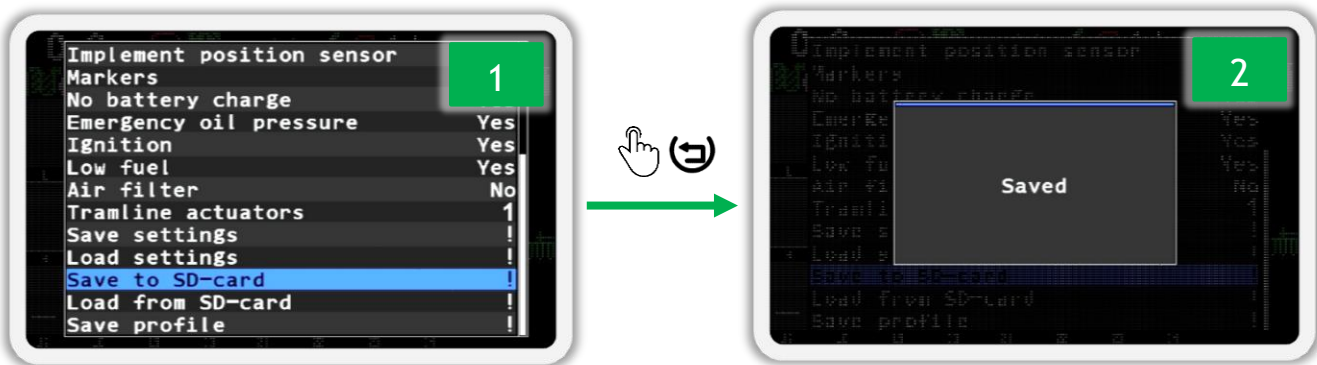

Figure 61 Saving a profile to a file on an SD card
2. Select the  “Save to SD-card” menu item (see Figure 61 p.1) and press the  “Menu” button. As a result, the message “Saved” will appear on the screen (see Figure 61 p.2). You can then create a new profile or load one from a file on your SD card.